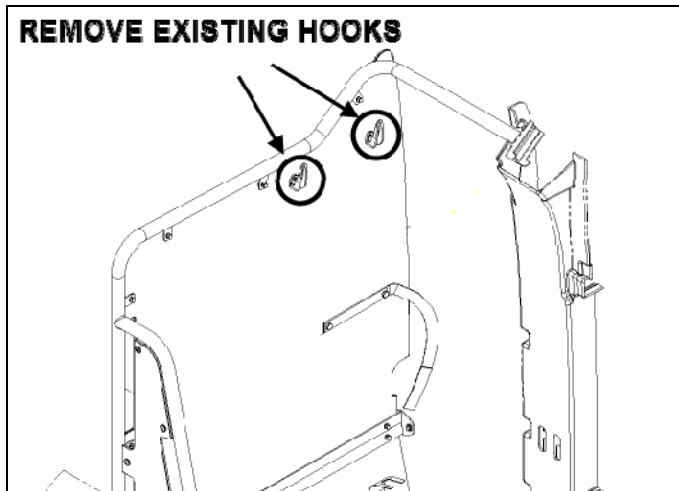

FIGURE 1
- 1) Locate the modesty panel. Behind the driver's seat, remove the existing hooks (2x) (figure 1).